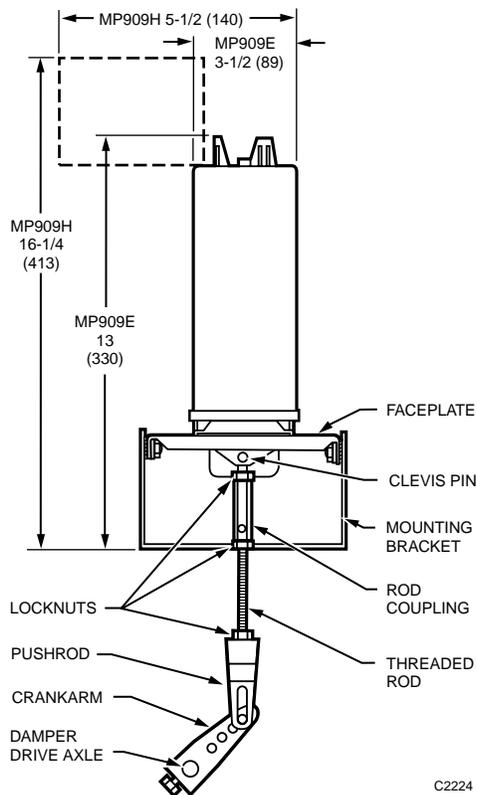

Fig. 19. Nonstandard Top-Mount Installation.
3. Loosen locknut and remove factory-installed pushrod from actuator shaft (Fig. 19).